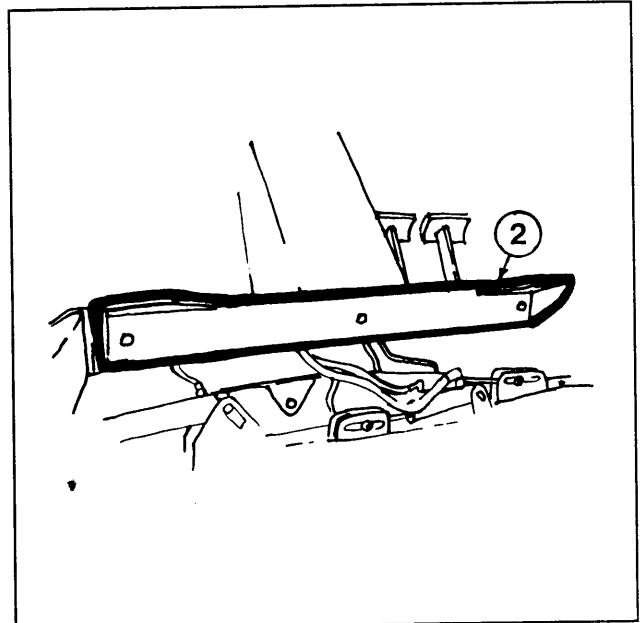

Figure 2
4. Locate the three-hole bolt pattern along the front of the operator platform. Take the front bracket (2) and loosely bolt it to the platform using the 1/2"x1 1/2" hex bolts, hex nuts, and lockwashers provided. (see figure 2)